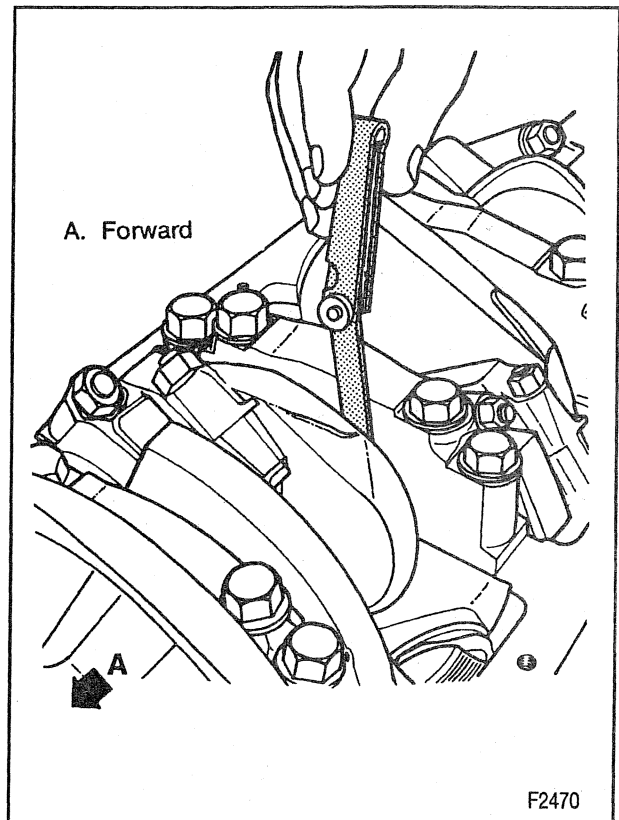

Figure 33—Measuring Crankshaft End Play
- With the crankshaft forced forward, measure at the front end of the number 3 main bearing with a feeler gage (figure 33). The proper clearance is 0.10-0.25 mm (0.0039-0.0098 inch).